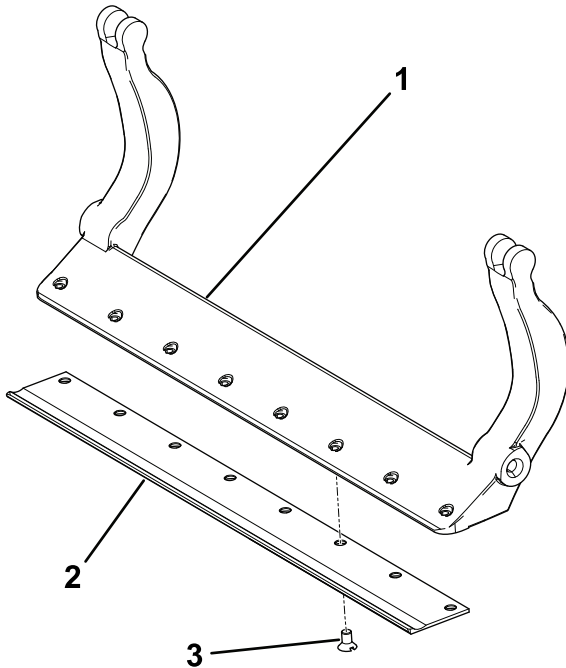

**Figure 34**
- Tighten the spring-tension nut until the spring is collapsed, then back off 1/2 turn (Figure 34).